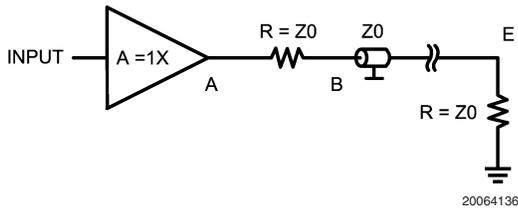
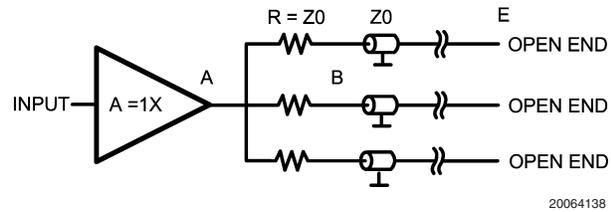
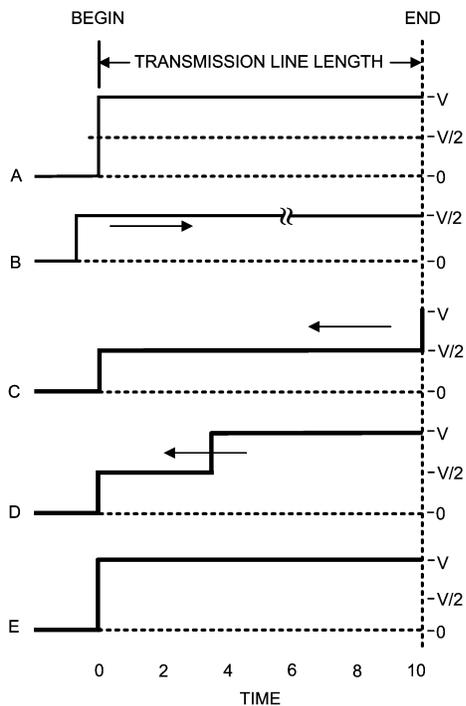

FIGURE 1.
FIGURE 3.
FIGURE 6.
- Use one buffer to drive one transmission line (see Figure 1)
- Use one buffer to drive several transmission lines each driving a different receiver. (see Figure 3)
In most cases, it is unrealistic to think that we can place a driver or buffer so close to the load that we don't need a transmission line to transport the signal. The pcb trace length between a driver and the load may affect operation depending upon the operating frequency. Sometimes it is possible to do measurements by connecting the DUT directly to the analyzer. As frequencies become higher the short lines from the DUT to the analyzer become long lines. When this happens there is a need to use transmission lines. The next point to examine is what happens when the load is connected to the transmission line. When driving a load, it is important to match the line and load impedance, otherwise reflections will occur and this phenomena will distort the signal. If a transient is applied at  $T = 0$  (*Figure 6*, trace A) the resultant waveform may be observed at the start point of the transmission line. At this point (begin) on the transmission line the voltage increases to (V) and the wave front travels along the transmission line and arrives at the load at  $T = 10$ . At any point across along the line  $I = V/Z_0$ , where  $Z_0$  is the impedance of the transmission line. For an applied transient of 2V with  $Z_0 = 50\Omega$  the current from the buffer output stage is 40mA. Many vintage opamps cannot deliver this level of current because of an output current limitation of about 20mA or even less. At  $T = 10$  the wave front arrives at the load. Since the load is perfectly matched to the transmission line all of the current traveling across the line will be absorbed and there will be no reflections. In this case source and load voltages are exactly the same. When the load and the transmission line have unequal values of impedance a different situation results. Remember there is another basic which says that energy cannot be lost. The power in the transmission line is  $P = V^2/R$ . In our example the total power is  $2^2/50 = 80\text{mW}$ . Assume a load of 75 $\Omega$ . In that case a power of 80mW arrives at the 75 $\Omega$  load and causes a voltage of the proper amplitude to maintain the incoming power.
Many applications, such as video, use a series resistance between the driver and the transmission line (see *Figure 1*). In this case the transmission line is terminated with the characteristic impedance at both ends of the line. See *Figure 6* trace B. The voltage traveling through the transmission line is half the voltage seen at the output of the buffer, because the series resistor in combination with  $Z_0$  forms a two-to-one voltage divider. The result is a loss of 6dB. For video appli-
Another way to reach several points via a transmission line is to start several lines from one buffer output (see *Figure 3*). This is possible only if the output can deliver the needed current into the sum of all transmission lines. As can be seen in this figure there is a series termination used at the beginning of the transmission line and the end of the line has no termination. This means that only the signal at the endpoint is usable because at all other points the reflected signal will cause distortion over the line. Only at the endpoint will the measured signal be the same as at the startpoint. Referring to *Figure 6* trace C, the signal at the beginning of the line has a value of  $V/2$  and at  $T = 0$  this voltage starts traveling towards the end of the transmission line. Once at the endpoint the line has no termination and 100% reflection will occur. At  $T = 10$  the reflection causes the signal to jump to  $2V$  and to start traveling back along the line to the buffer (see *Figure 6* trace D). Once the wavefront reaches the series termination resistor, provided the termination value is  $Z_0$ , the wavefront undergoes total absorption by the termination. This is only true if the output impedance of the buffer/driver is low in comparison to the characteristic impedance  $Z_0$ . At
this moment the voltage in the whole transmission line has the nominal value of 2V (see Figure 6 trace E). If the three transmission lines each have a different length the particular point in time at which the voltage at the series termination resistor jumps to 2V is different for each case. However, this transient is not transferred to the other lines because the output of the buffer is low and this transient is highly attenuated by the combination of the termination resistor and the output impedance of the buffer. A simple calculation illustrates the point. Assume that the output impedance is 5Ω. For the frequency of interest the attenuation is  $V_B/V_A = 55/5 = 11$ , where A and B are the points in Figure 3. In this case the voltage caused by the reflection is  $2/11 = 0.18V$ . This voltage is transferred to the remaining transmission lines in sequence and following the same rules as before this voltage is seen at the end points of those lines. The lower the output resistance the higher the decoupling between the different lines. Furthermore one can see that at the endpoint of these transmission lines there is a normal transient equal to the original transient at the beginning point. However at all other points of the transmission line there is a step voltage at different distances from the startpoint depending at what point this is measured (see trace D).